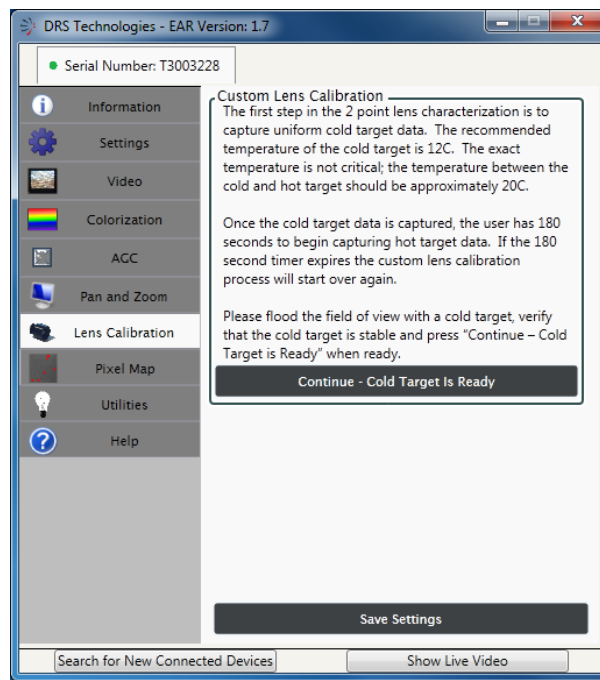

Figure 40: Cold Target
- Once the table is selected, the first step in the 2-point lens characterization is to capture the uniform cold target data. The recommended temperature of the cold target is approximately 10C below the ambient temperature (or 12C if the ambient temperature is 22C). The exact temperature is not critical; the temperature delta between the cold and hot target should be approximately 20C. Click *Cold Target Ready* button, as shown in Figure 40.